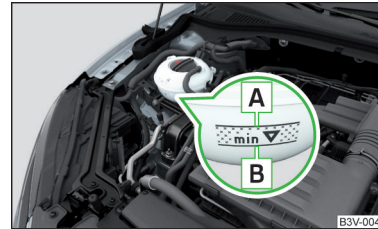

Fig. 220
Check the coolant level - the coolant level must be between the marks **A** and **B** » Fig. 220. If the coolant level is below the mark **B**, refill the coolant.
The **specification** of the coolant is shown on the coolant expansion reservoir » Fig. 220.
- Do not fill the coolant above the mark [A] » Fig. 220. When it heats up, the coolant could press out of the cooling system - there is a risk of damage to the engine parts.